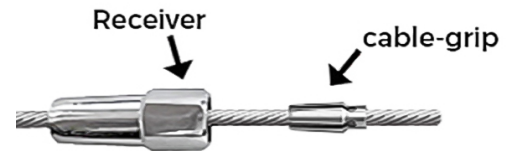

Fig 6
- b. Place cable-grip onto cable by spreading prongs apart and pushing cable through until it exits the tied end 1/2" (Fig. 6)
- c. Slide receiver over cable-grip. (Fig. 6)
- d. Using 2 wrenches, one on receiver body and one on threaded end, tighten the fittings until they can no longer be tightened. (Fig. 6)